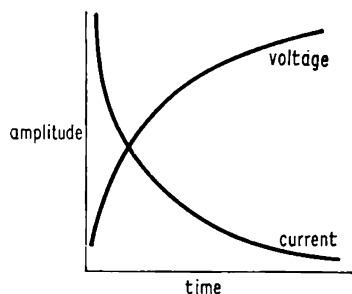

Fig. 292
When a capacitor is being charged up, the charging current falls rapidly as the voltage across the capacitor increases (Fig. 292). Opposition to the charging current in a capacitor, then, depends on the voltage across the capacitor due to its charge. *Can you now explain why the reactance of a capacitor should be less at higher frequencies?* (25) (*Hint: How does the frequency affect the charging time?*)